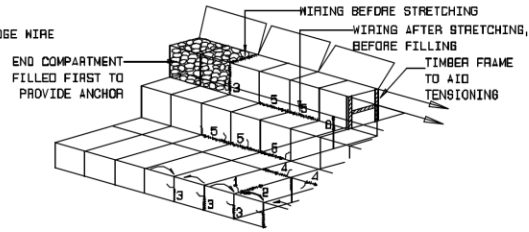

FIGURE 5
2. ONLY ASSEMBLED BOXES, OR GROUPS OF BOXES, SHALL BE POSITIONED IN THE STRUCTURE. THE SIDE OR END, FROM WHICH WORK IS TO PROCEED, SHALL BE SECURELY LACED TO COMPLETED WORK AT ALL CORNERS AND DIAPHRAGM POINTS (FIGURE 5), OR ANCHORED BY RODS DRIVEN INTO THE GROUND AT THESE POSITIONS. THE RODS MUST BE SECURED AND REACH AT LEAST TO THE TOP OF THE GABION BOX.
3. STRETCH THE OPPOSITE SIDE OF THE BOX OR SECTION BY INSERTING BARS INTO THE BOTTOM CORNERS AND LEVERING THEM FORWARD BY MEANS OF A WIRE STRAINER OR WINCH. THE TOP AND BOTTOM ARE THEN KEPT STRETCHED IN THIS WAY UNTIL THE GABION HAS BEEN FILLED. WHILE THE GABION IS BEING STRETCHED, ENSURE THAT THE OPPOSITE WIRING OR ANCHORING HAS BEEN PROPERLY CARRIED OUT AND IS NOT PULLING APART OR COLLAPSING (FIGURE 5) THE NEXT STEP IS TO WIRE ALL THE OTHER SIDES AND ENDS OF THE STRETCHED SECTION TO ADJOINING ALREADY FILLED GABIONS (FIGURE 5). THE STRONG INTER-CONNECTION OF ALL UNITS IN A GABION STRUCTURE IS AN IMPORTANT FEATURE OF THE TECHNIQUE AND IT IS THEREFORE ESSENTIAL THAT THE WIRING IS SECURE.